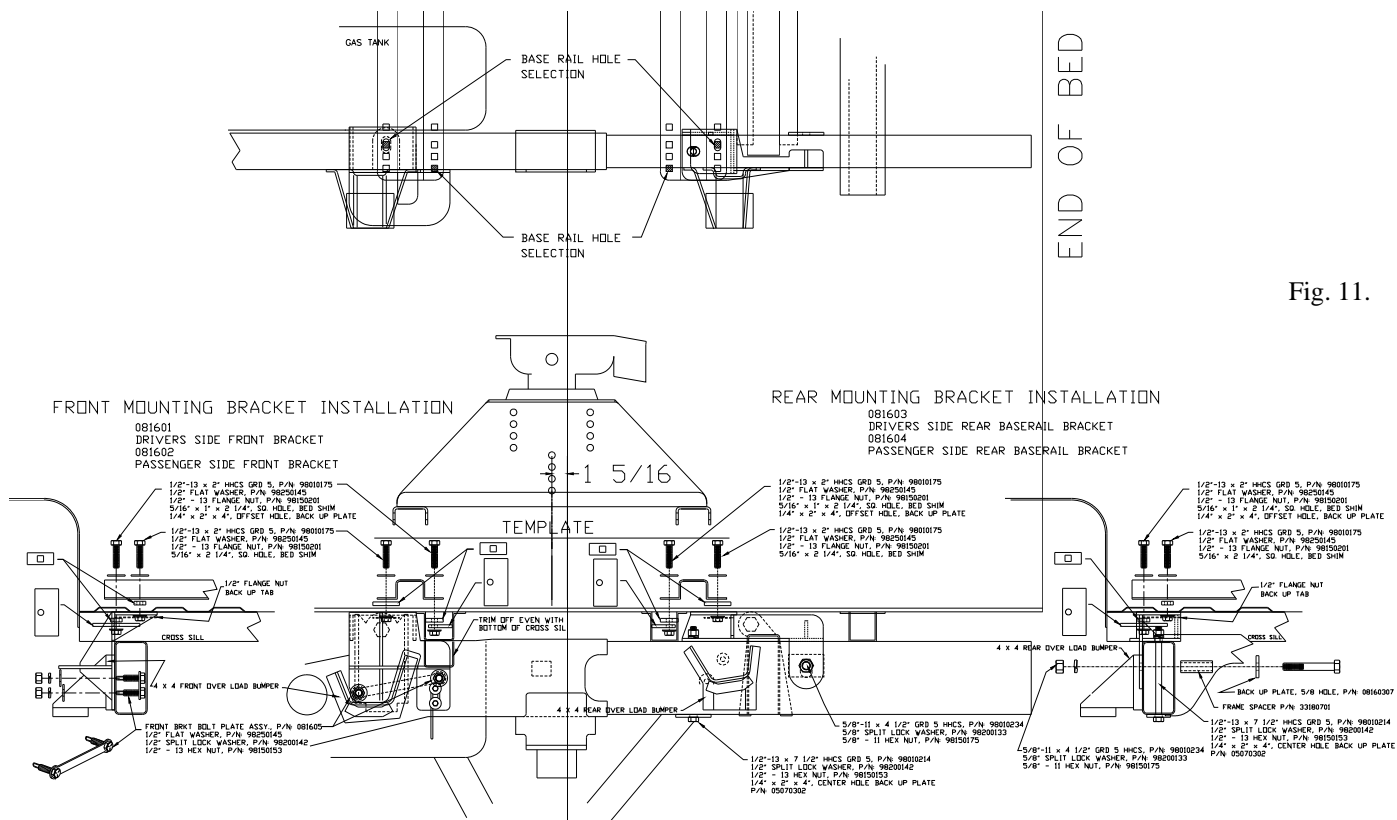

Fig. 11.
14. Referring to the figures 11 through 14 and the exploded view on page 3, insert the four 1/2" - 13 x 2" Bolts, with 1/2" Lock Washer and Flat Washer, through the Base Rail and thread them into the Flange Nuts installed in step 9. Leave these bolts loose.
15. Referring to the figures 11 through 14 and the exploded view on page 3, insert the remaining four 1/2"-13 x 2" Bolts through the Base Rails. These bolts will come down through the bed in an area between the side walls of a cross sill. Fasten these bolts in place using a 5/16" square hole Bed Shim P/N: 08070201, an off set hole Back Up Plate and 1/2"-13 Flange Nut.